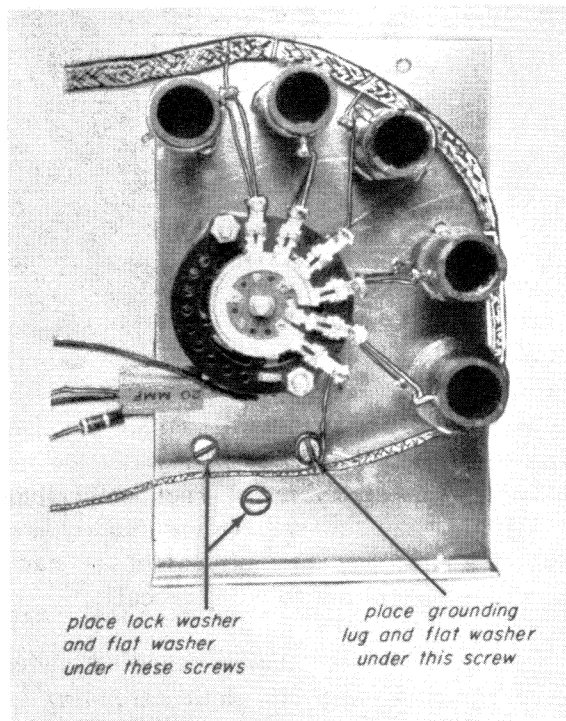

Fig. 21-10
Step 4. Mount the tuning capacitor under the bandswitch with its shaft extending in the same direction as the bandswitch. The tuning capacitor is mounted with three 6-32 x 1/4-inch screws, as shown in Fig. 21-10. Do not use longer screws or they will damage the tuning capacitor rotor. Place a flat washer and a grounding lug under the mounting screw closest to coil A and a flat washer and lock washer under each of the other two screws.
Step 5. Bend the ground braid up close to the grounding lug, as shown in the figure. Pass the wire from bandswitch lug A_6 through the ground lug and use it to tie the braid to this ground lug. Solder the connection. Your tuning assembly plate should now look like Fig. 21-10.